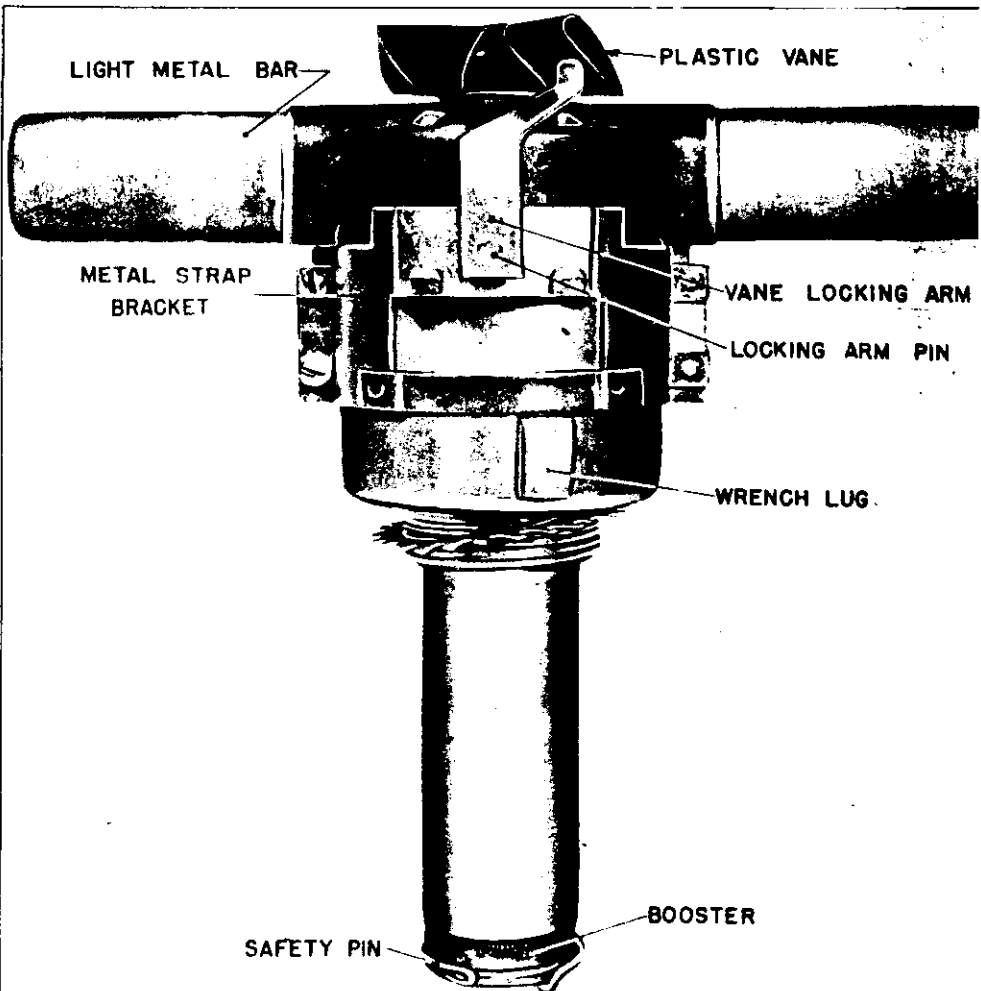

FIG. 2 BAR TYPE VT BOMB NOSE FUZE (T 51 E1)
There are two distinct types of VT bomb nose fuzes, namely the Ring Type, Fig. 1, and the Bar Type, Fig. 2.
- 2) .10 blades--metal (See Fig. 2)